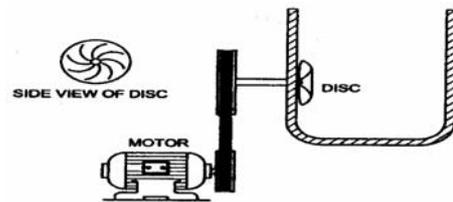

Fig.12.4 - Pulsator washing arrangement
**Pulsator Technique :** This is the most common type, used in semi-automatic type washing machine, shown in Fig.12.4. Pulsator is a disc, concave in shape used to rotate the cloths in water. Dirt is removed by the cloth ruby against tub wall surfaces and the disc.